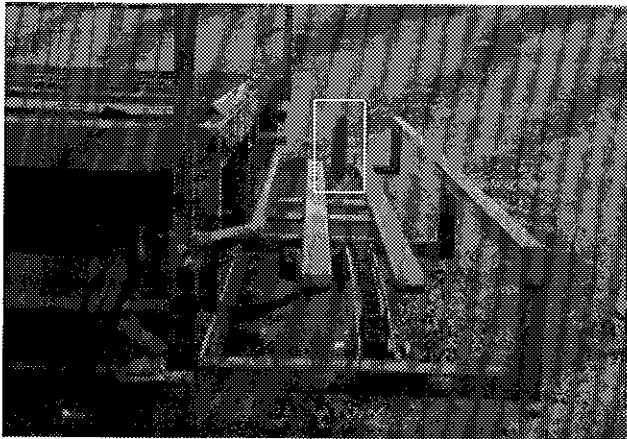

Figure 24
- 6) To clear a partial load at the end of a run, empty the elevator section by manually actuating the "Full Elevator" switch (Figure 24) then chose the location in the field where you wish to unload this partial load. Set the "Bypass" switch to "ON" and press the "Transfer Button", the two conveyors will operate (pilot light on) and empty the machine. Set the "Bypass" switch and the "Control" switch to "OFF".